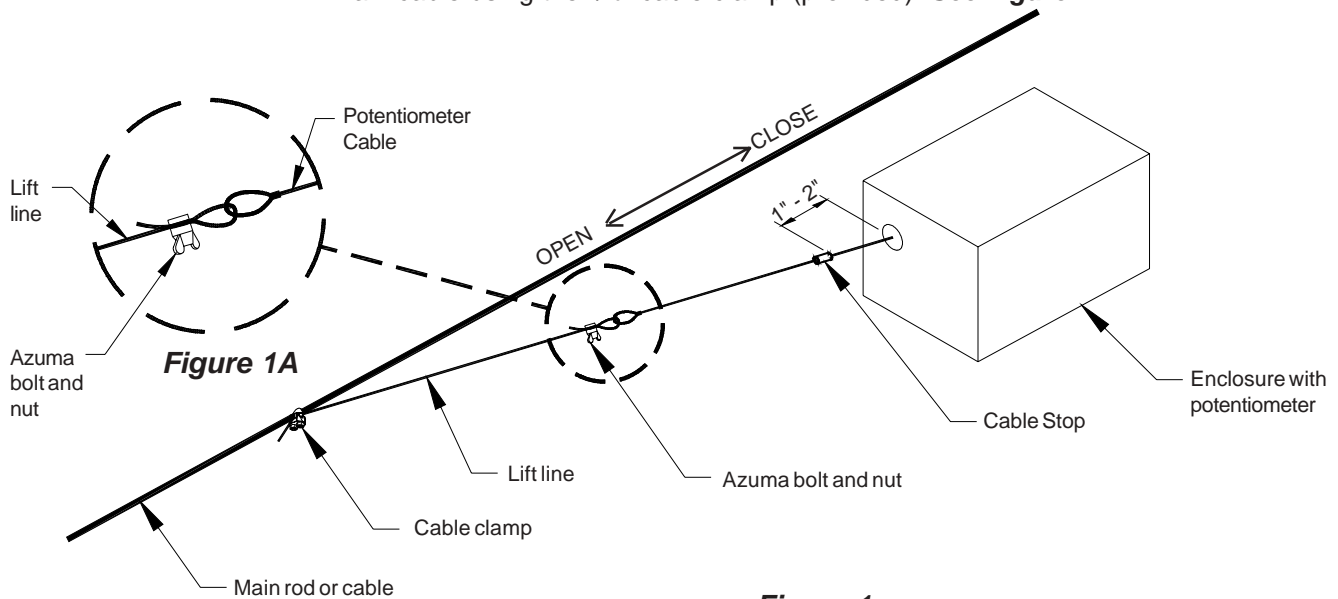

Figure 1
- 1) Mount the PTPL-5K box in the immediate area of actuator. The PTPL box should be oriented so the potentiometer cable leaving it does not drag on the side of the hole during opening and closing of the actuator. **See Figure 1.**
- 3) With the actuator fully closed, pull the lift line so that the small metal cable stop on the potentiometer cable exits the PTPL box 1" to 2". Attach the lift line to the baffle main cable using the $\frac{3}{16}$ " cable clamp (provided). **See Figure 1.**